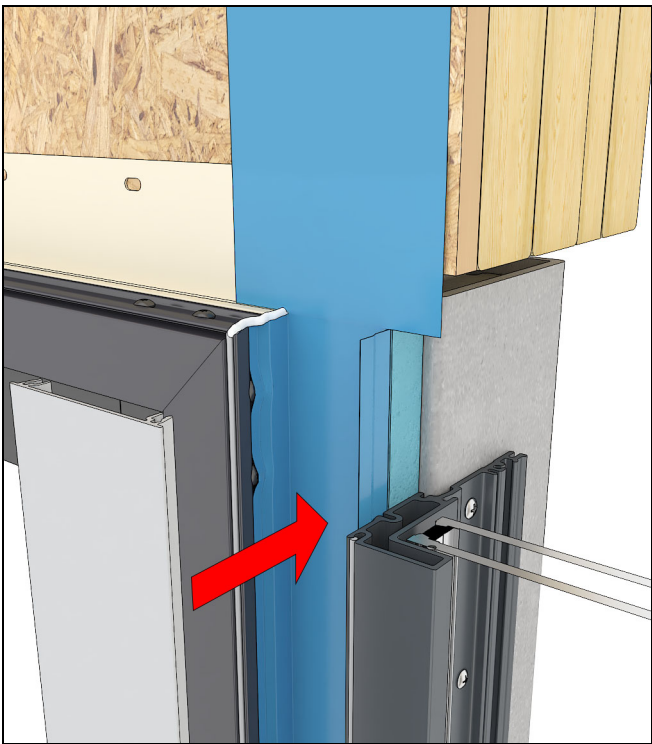

Figure 7
6. Install the 2" mull cap. Seat with a wood block and hammer. See Figure 7.